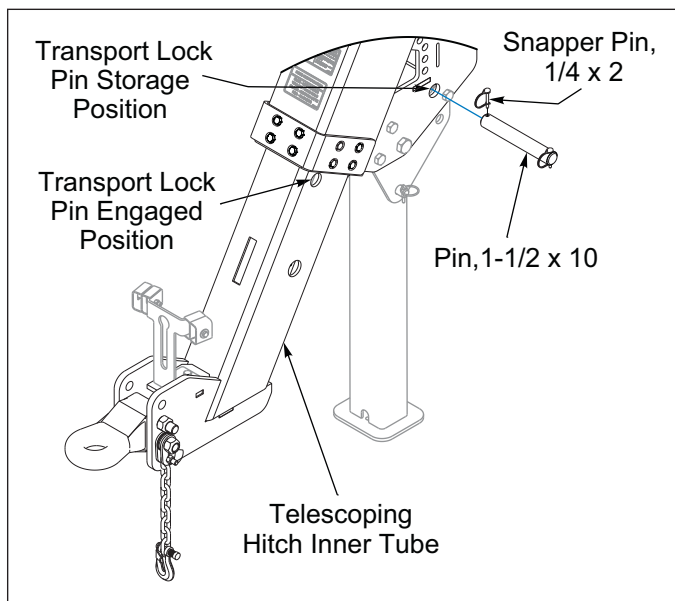

Figure 3-7: Telescoping Hitch Transport Lock Stored
3. Remove the Telescoping Hitch Transport Lock Pin and locate to Storage Position. **See Figures 3-7 and 3-8.**
1. Remove Telescoping Hitch Transport Lock Pin and place in storage location. **See Figure 3-7.**